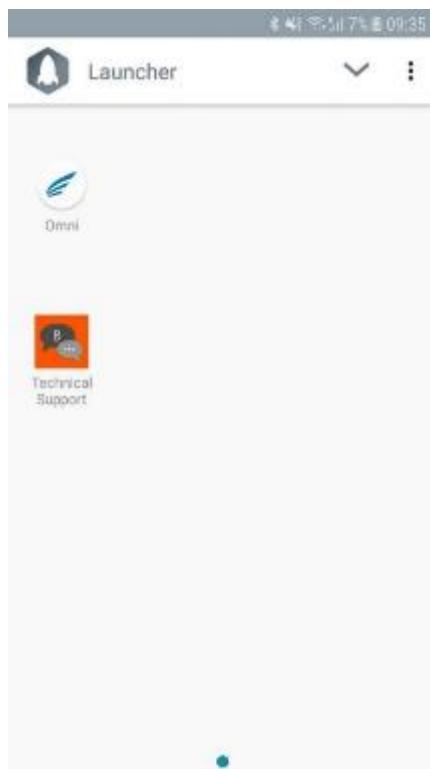

Figure 5. Omni Application
4. In the Launcher application, tap the **Omni** icon to start the Omni mobile application (see Figure 5). The Cepheid login screen appears.